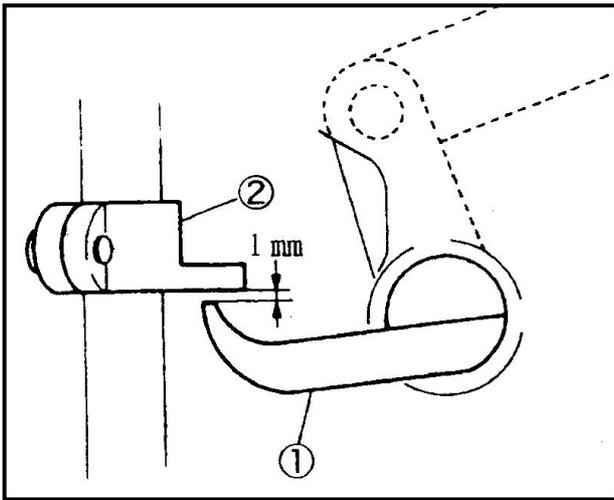

Fig.3
1.當壓腳緊貼在針板上時，在抬壓腳連接軸①跟壓腳連接托架②留 1mm 的間隙。(Fig.3,4)
1. As standard, make the clearance between the presser bar lifter lever ① and the presser bar connecting bracket ② to 1 mm when the presser foot touches the stitch plate closely.(Fig. 3,4)